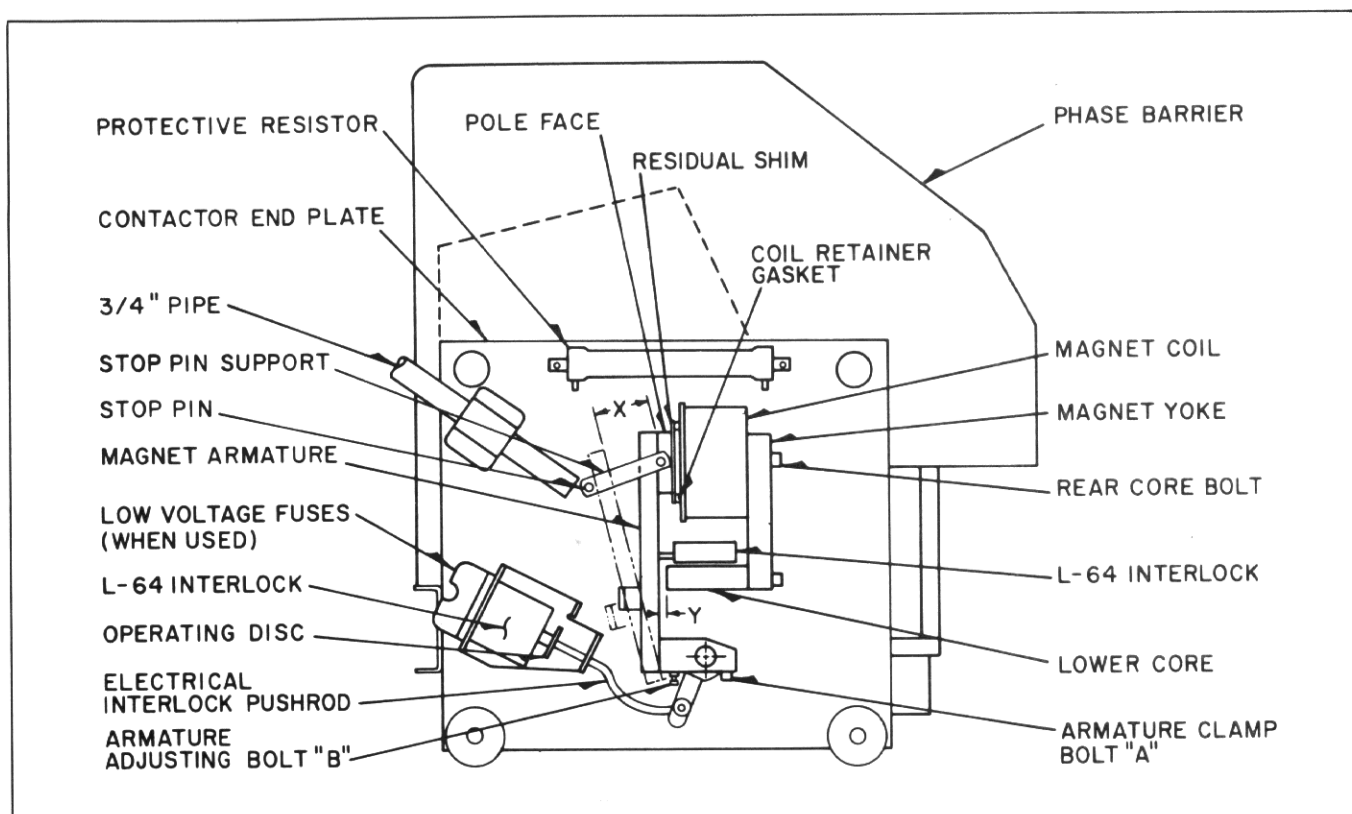

Fig. 10 Magnet Adjustments (Dwg. 3513C84)
Check, and if necessary adjust contact overtravel. Overtravel is measured at point "X" of Figure 10 at the tip of the magnet armature. With new contacts this dimension should be $.62" \pm .016"$ when the main contacts are at the touch point. Contact overtravel adjustment is made as follows:
1. Loosen the two bolts at "A" in Figure 10 which clamp the magnet armature to the shaft.
2. Block the magnet armature to provide a gap of $.62"$ at point "X" of Figure 10.
3. Adjust bolt "B" in Figure 10 as required to make contacts just touch. With this adjustment contact open gap should be $1" \pm .125"$ measured at the heel of contact faces when the armature is resting against the stop pin.
In carrying out general inspections, operate the magnet armature by hand. Any friction should be investigated and corrected. Check that the armature seats squarely without hitting the magnet pole face bolts, and that a .09" to .16" gap at point "Y" of Figure 10 has been maintained.
- 4) Install the new coil on the core assembly being sure the residual shim and coil retainer gasket are mounted as shown in Figure 10.
magnet armature. In this application a "late break" operation is required so the interlock is permanently mounted in a position such that its contacts will open when the armature gap "X" of Figure 10 is approximately .18".